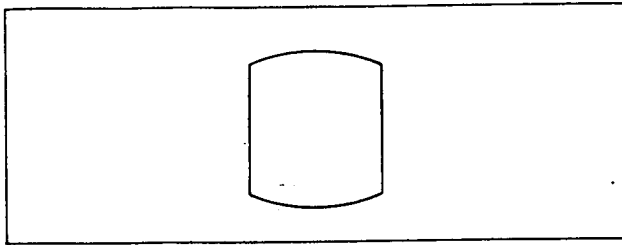

Fig. 2-6-2
- 1) The picture should appear as shown in Fig. 2-6-2 when the boards have been adjusted. If not, adjust to obtain a picture as shown in Fig. 2-6-2 with the RV106 and RV104.